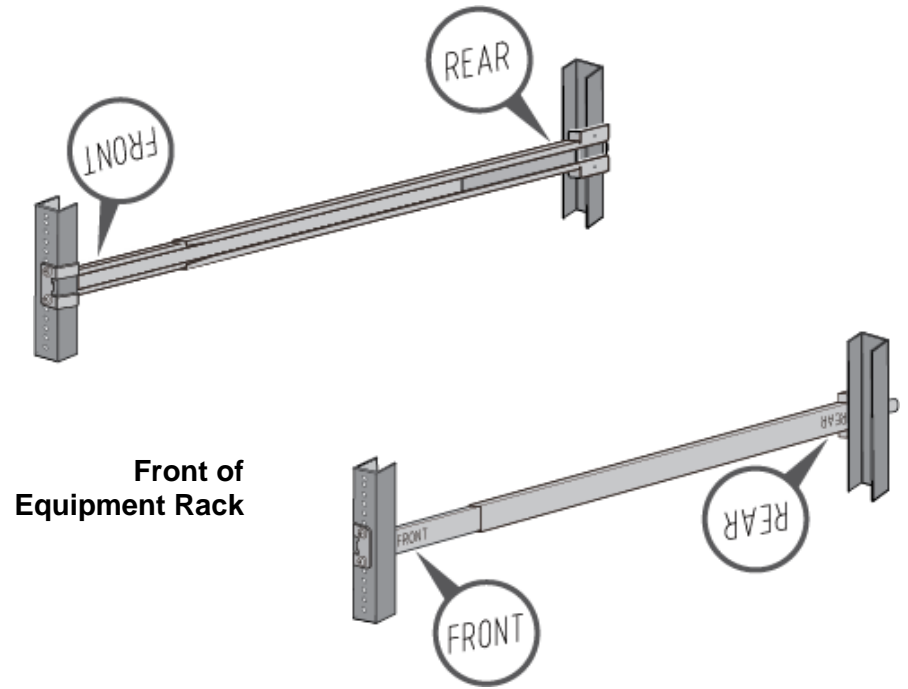

Figure 6. Installing the Outer Rails on the Equipment Rack
2. Attach the outer rails to the equipment rack using the supplied screws. Use four screws per rail. Refer to Figure 6 on page 26. Installing the switch can be easier if you leave the screws slightly loosened now and fully tightened them after the switch is installed.